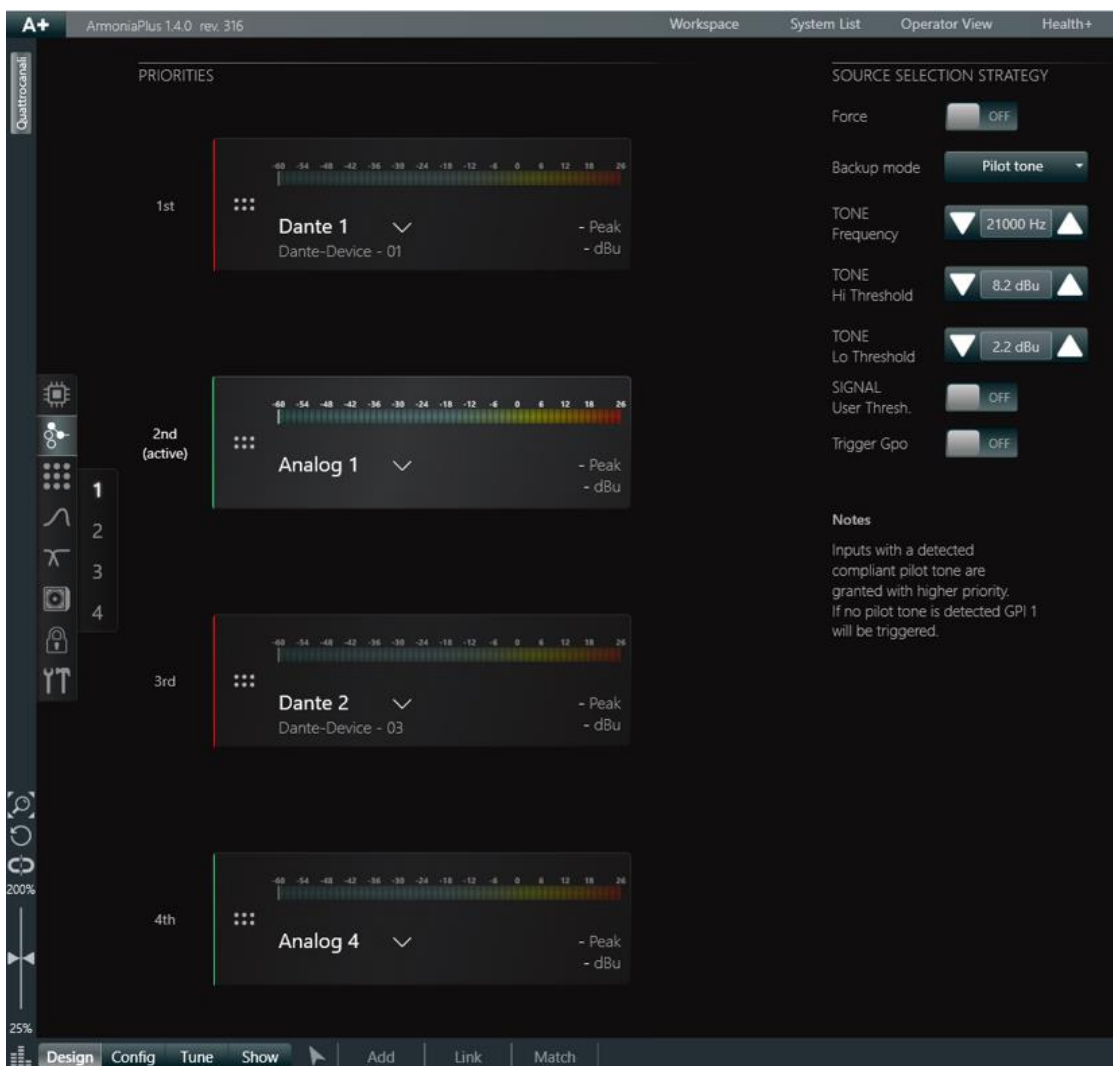

Figure 2 – Source and Priorities Selection page in ArmoníaPlus.
As part of Powersoft amplifiers' internal DSP, each input source channel has a queue with four slots for source selection (Figure 2). Analogue and Dante inputs are available to all source selection queues and can be used in different ones simultaneously. Additionally, Dante patching can be done directly from ArmoníaPlus, including patching with third-party devices found on the network.
3. Under the 'Source Selection Strategy' in the centre of the screen, select **Pilot Tone** as the 'Backup Mode' (Figure 2).
In the example in Figure 2, any input signal containing a pilot tone with a frequency of 21 kHz and a level between 2.2 dBu (approx.  $1 V_{RMS}$ ) and 8.2 dBu (approx.  $2 V_{RMS}$ ) will be detected. Sources for which a pilot tone has been detected will display a green indicator, as shown in Figure 2. Other input sources without a pilot tone, or that contained a pilot tone but have been disconnected or gone into a fault state, will display a red indicator.
Additionally, it can also be seen in Figure 2 that the highest source in the priority queue containing the pilot tone, will be automatically selected as the active source.